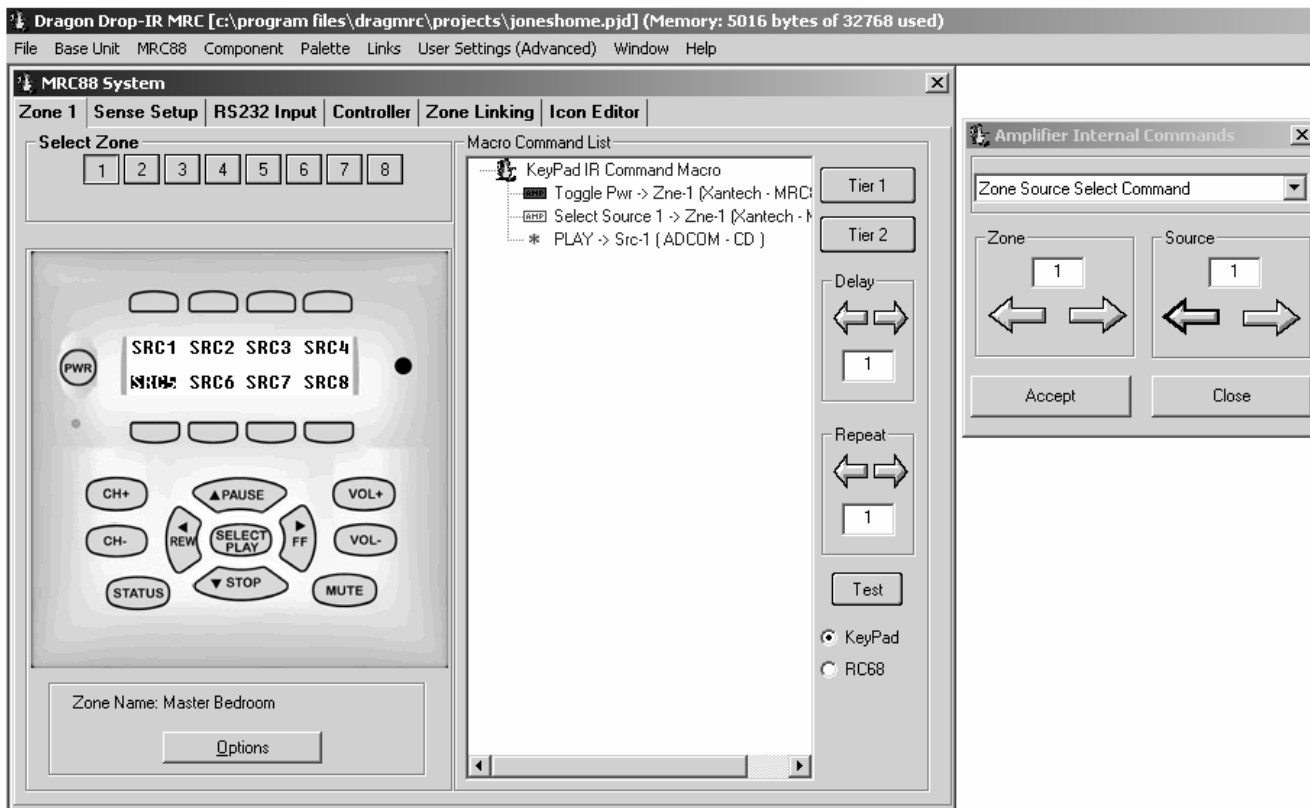

Figure 41 – Using Internal Amplifier Commands
5. Two Parameter boxes will appear as shown in **Figure 41**, to set the action of the command. (i.e. Zone 1 and Source 1).